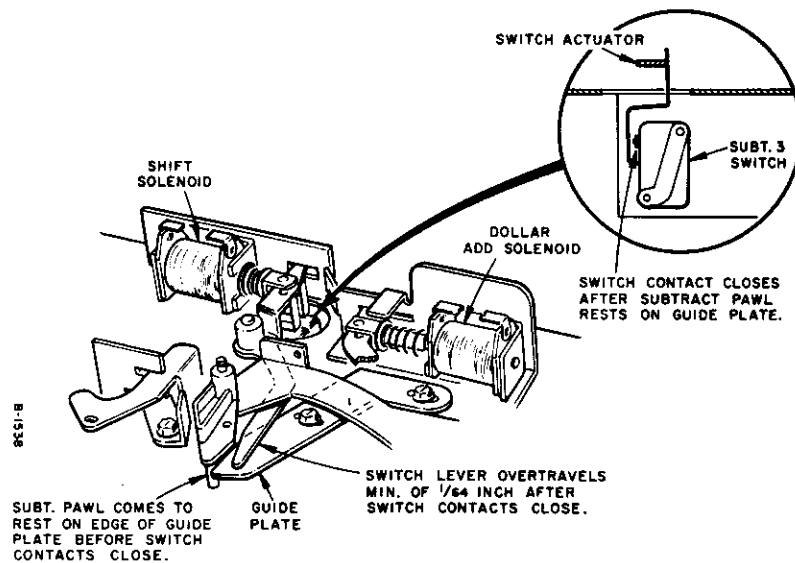

Figure 12. Subtract 3 Switch Adjustment Detail.
5. Refer to Figure 11. With the shift solenoid seated adjust the guide plate to allow the subtract pawl to enter the teeth in the credit ratchet wheel without striking either side and to subtract three credits. Make certain that with the shift solenoid plunger seated, the shift lever is held far enough away from the subtract pawl so that it cannot touch at any point during the subtract stroke. See Figure 12.
Refer to Figure 12. Adjust the position of the subtract 3 switch so that when the shift solenoid is energized, the switch contacts close (listen for click) after the subtract pawl has come to rest against the edge of the guide plate but before the shift solenoid bottoms. There must be 1/64 inch minimum overtravel of the end of the switch lever after switch operation. Upon the return stroke of the shift solenoid, the subtract 3 switch contacts must open by the time the shift lever comes within 1/32 inch of bottoming in its slot in the shift coil and switch bracket.